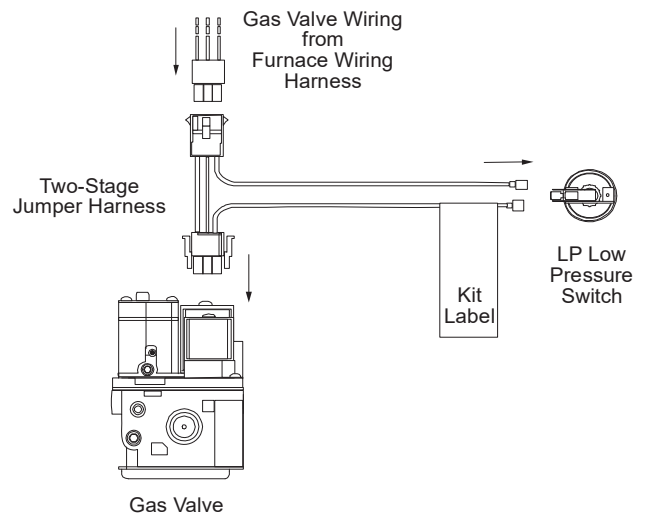

Figure 5
9. Turn OFF power to furnace. Connect jumper harness between LPLP switch and gas valve and gas valve wiring as indicated in Figure 5 (two-stage models). Some two-stage models may require the use of long jumper wires to accommodate connection of the switch. (2nd long jumper wire can be taken from long single stage harness.).